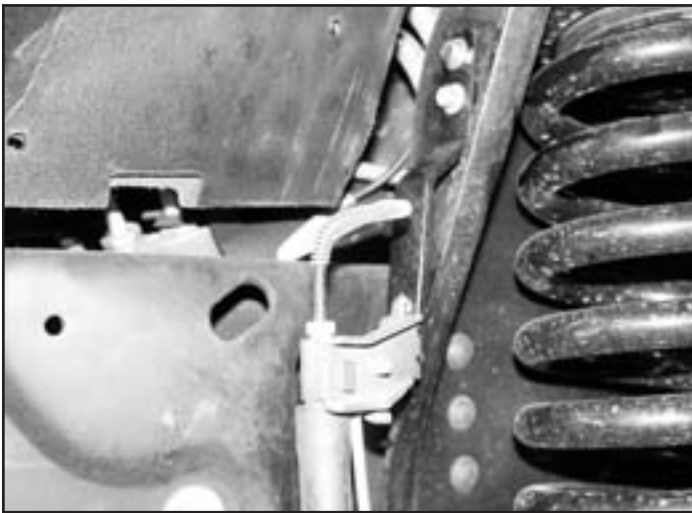

FIG. 13b (6" only)
46. Attach the short end of the brake line bracket to the coil mount. (Fig 13b) Align the two holes in the bracket with the existing coil mount holes. Install a 1/4" x 1" bolt, nut and 1/4" USS washers (Bolt Pack #431) in the top hole and the original bolt in the second hole down. Tighten hardware to 10 ft-lbs.